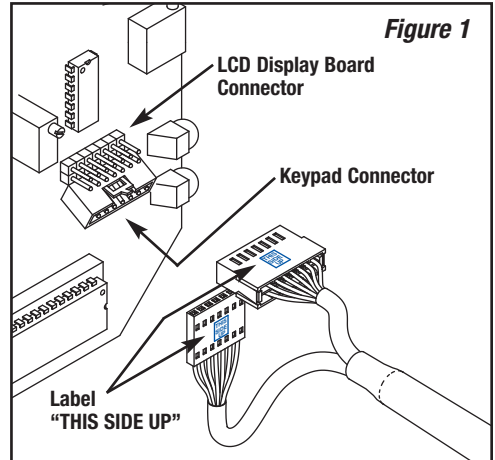

Figure 1
1. Disconnect the power to the autoclave. Remove the cover. Disconnect the two cables from the main PC board - one cable from the LCD display board and the other from the keypad (**see Figure 1**). Leave the cover in the horizontal position.
4. Connect the Extension Test Cable mating connectors to the main PC board - making sure that the Extension Test Cable connector has the "This Side Up" label facing in the upward direction (**see Figure 1**). (**Caution: If the Extension Test Cable is connected incorrectly, severe damage may occur to the autoclave.**)